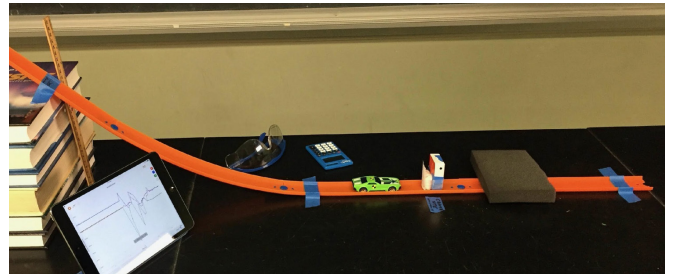

Figure 1- Crash Test Track Set-Up
3. With books as a support, create an elevated starting ramp for the toy car by securing one end of the track to the stack of books. See Figure 1.
4. Measure straight upwards from the table or floor to a spot on the track 23 cm above the table or floor. Mark this point as the starting line. Secure the top of the track to the books with a strip of tape (See Figure 1).
6. Place the piece of foam padding provided (e.g., small pillow, stuffed animal, etc.) at the end of track to catch the sensor and car after the collision (See Figure 1).